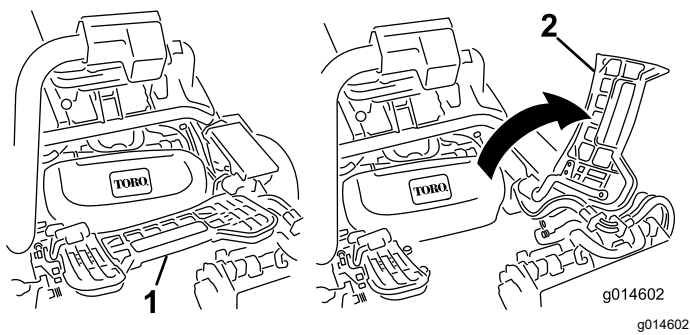

Figure 61
2. Lift up on the foot rest and swing it open, allowing access to the center cutting unit position (Figure 61).